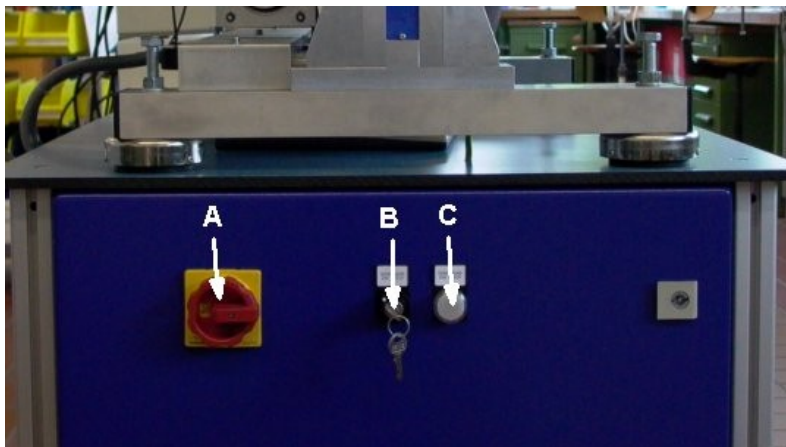

Fig. 1.4
- Move switch 'A' (Fig. 1.4) to an upright position (ON)